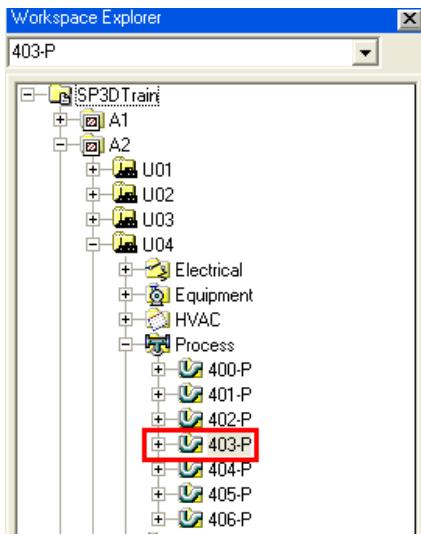

Figure 62: Selected 403-P in the WorkSpace Explorer
4. Select the pipeline **403-P** from the **Workspace Explorer**, as shown in Figure 62.